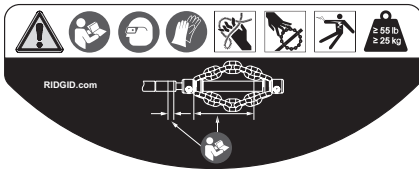

Figure 3 – Warning Label
- Presence and readability of the warning label (see Figure 3).